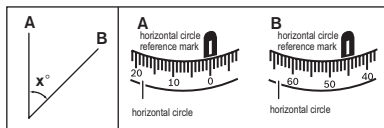

fig.7
1. Shoot the instrument toward A, rotate the horizontal circle 2 with "0" point toward the reference mark 3. (see fig.7)
2. Shoot the instrument toward B, read off the angle value at the reference mark 3 of horizontal circle. (see fig.7)